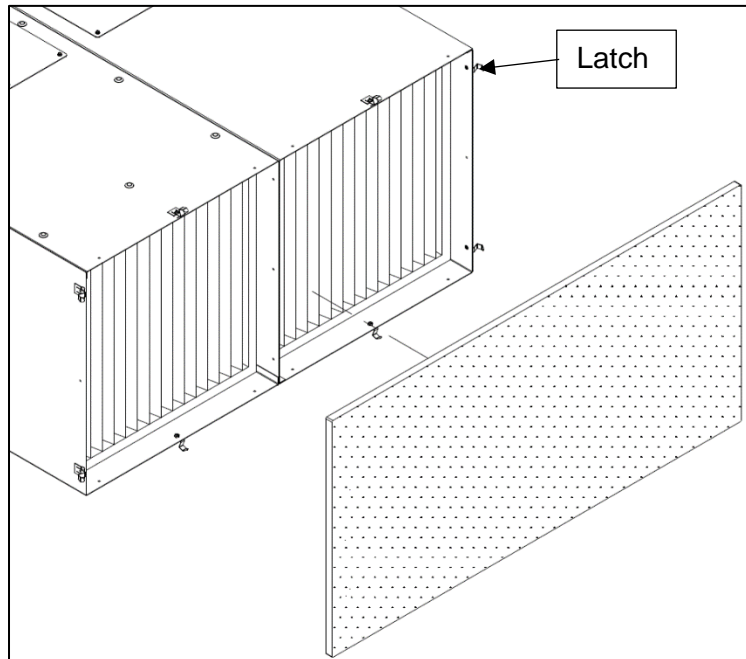

FIG. 13 – Horizontal Configuration.
**NOTE:** For units equipped with the optional Scrim Pre-Filter, remove the scrim pre-filter by disengaging the latches (See **FIGS. 13 & 14**).